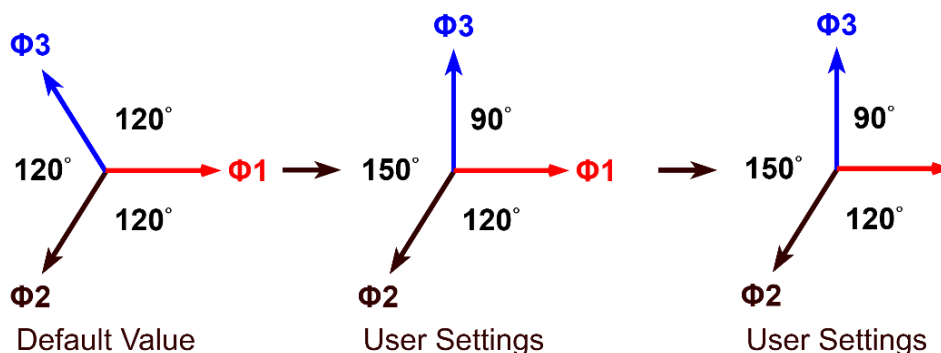

Figure 4-33: Output Configuration (Phase) Page – When Independent Relock is Disabled
1. **Independent Relock = Disable**: If the output frequencies of the three phases are different, and the user sets all three frequencies to be the same during output, the phase difference between the outputs will not automatically return to the default 120°, as shown in Figure 4-33.